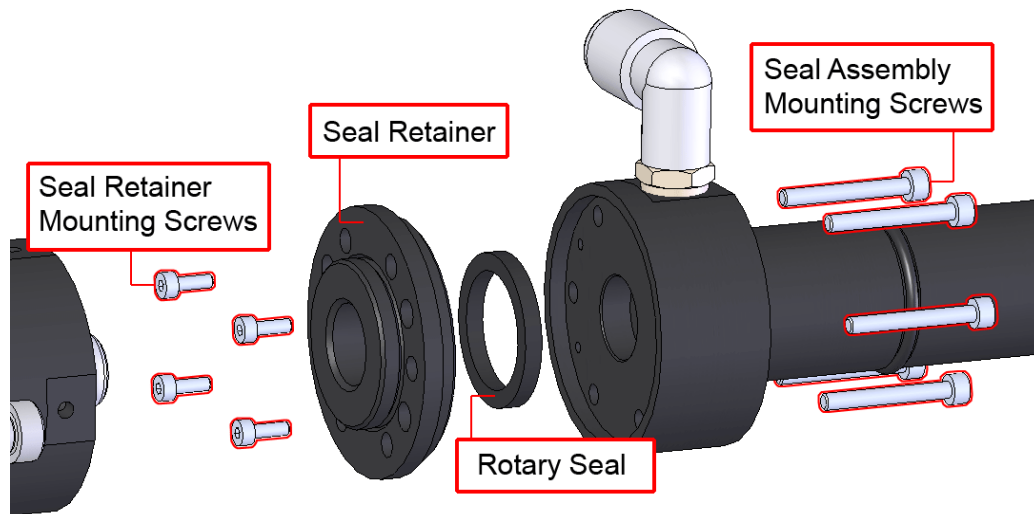

Figure 4-7: Seal Installation
Step 4: Carefully pull the seal assembly off of the stage. Figure 4-7 shows an exploded view of the seal assembly.